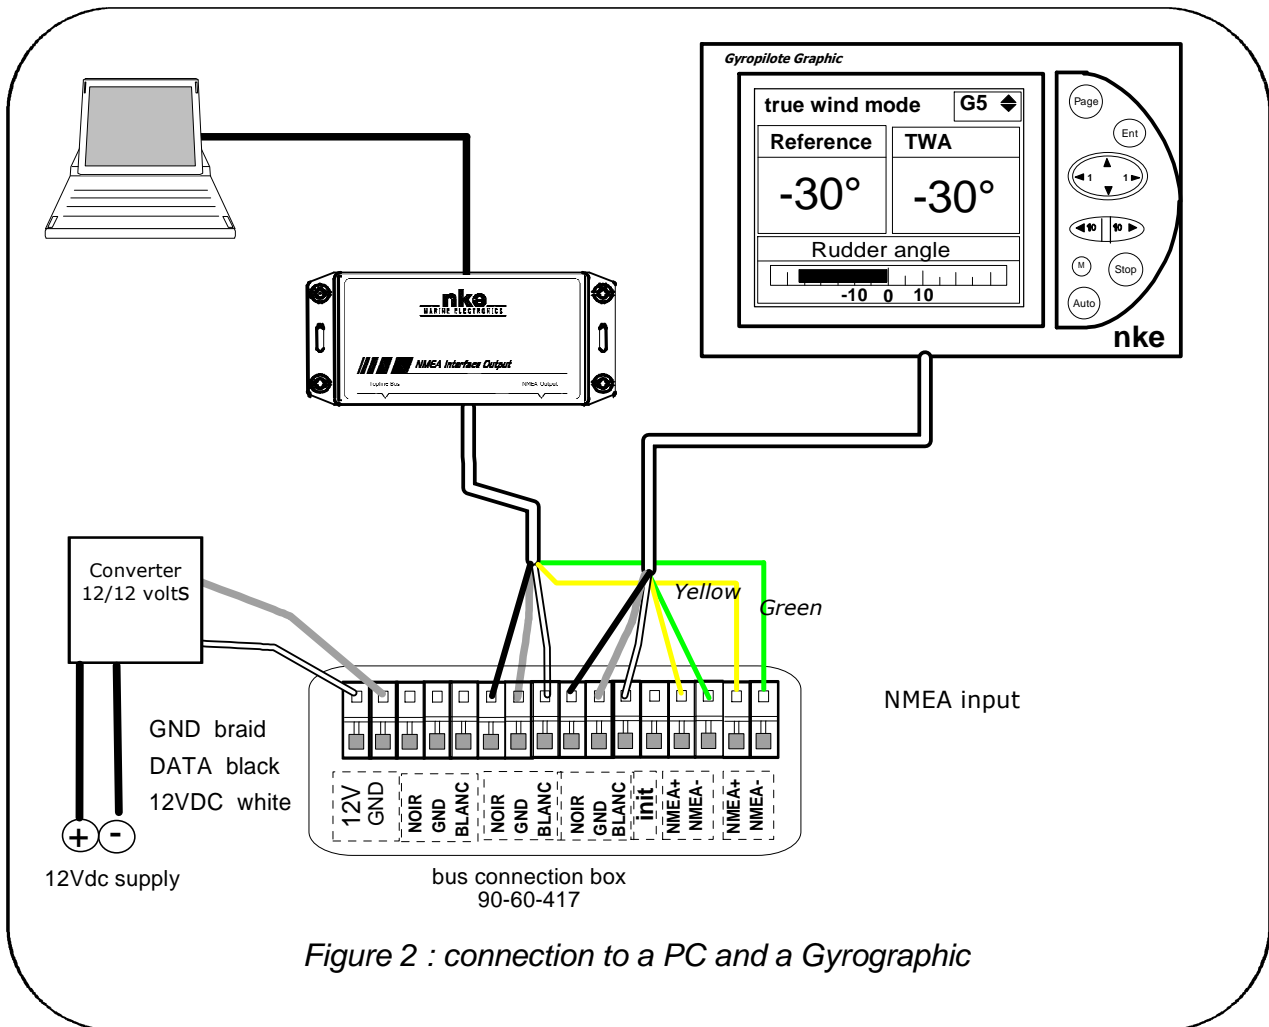

Figure 2 : connection to a PC and a Gyrographic
- Connect the bus cable inside the terminal box as shown in Figure 2.